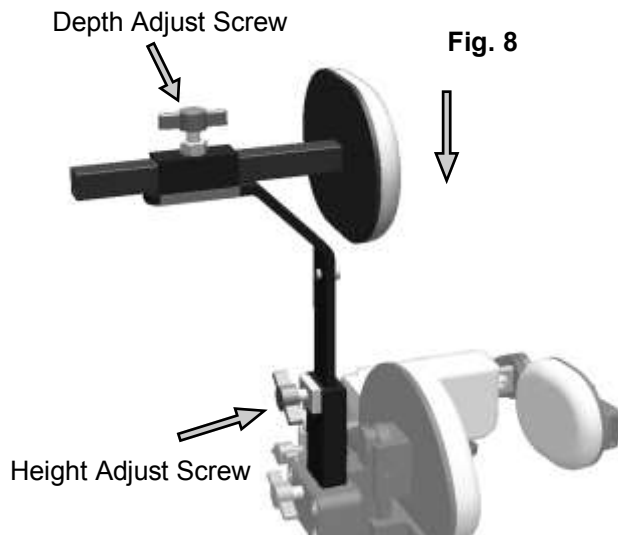

Fig. 8
- Insert the Headpad or the Headrest supplied with the unit into the extension tube with pad facing forward - tighten height and depth adjustment screws (fig. 8).